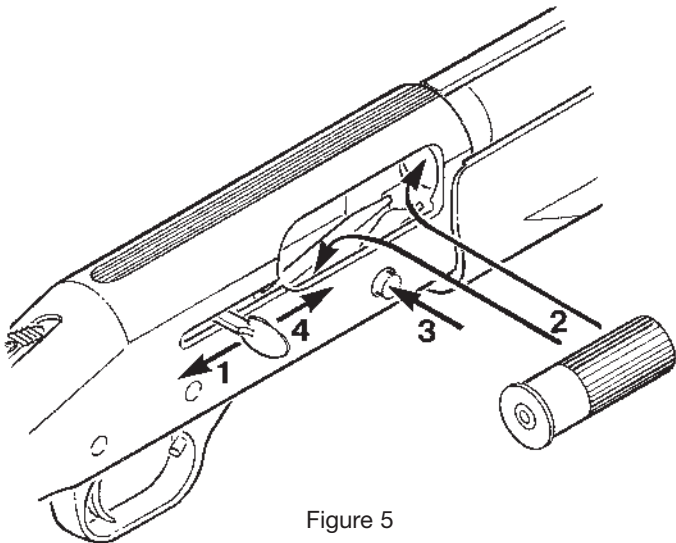

Figure 5
1. Lock the action open by pulling the operating handle rearward (Figure 5).
2. Load the first round through the ejection port located on the right side of the receiver. The round can be inserted directly into the chamber or placed on top of the elevator (Figure 5).
3. With the safety button fully rearward in the “ON” (SAFE) position, and the muzzle pointed in a safe direction, press the bolt release until the action releases (Figure 5).